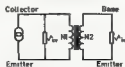

FIG. 7.
We can represent the driver transistor, the transformer  $T_1$  and the input circuit of the output transistor by the equivalent circuit in Fig. 7.
The value of  $r_{ce}$  (Fig. 7) must be known to enable us to determine the turns ratio of the transformer from the formula:—
3. The design of the output transformer will have to be modified slightly. The circuit of Fig. 7 can be modified to that in Fig. 10.